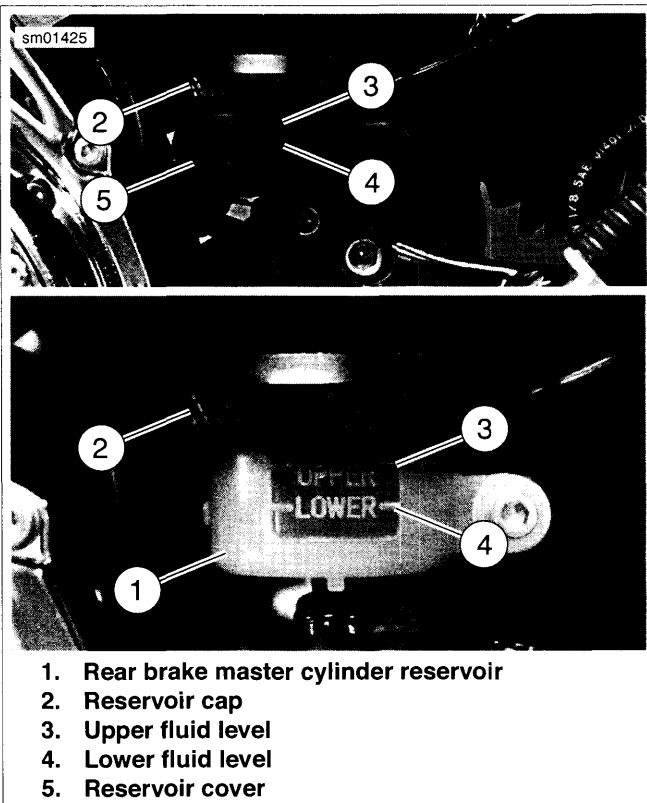
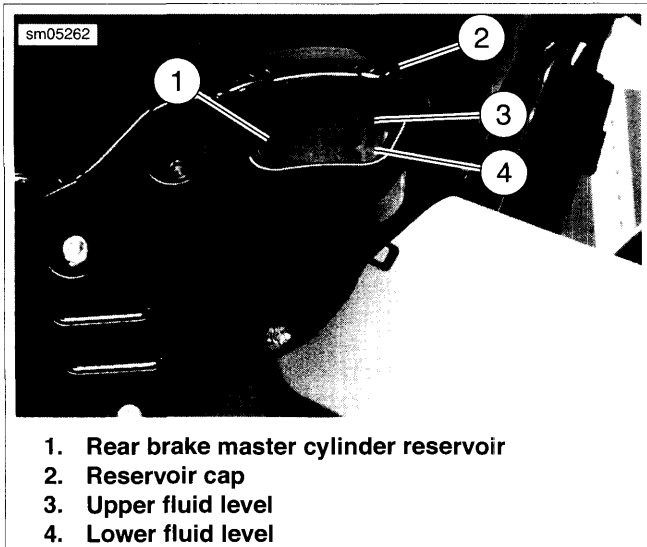
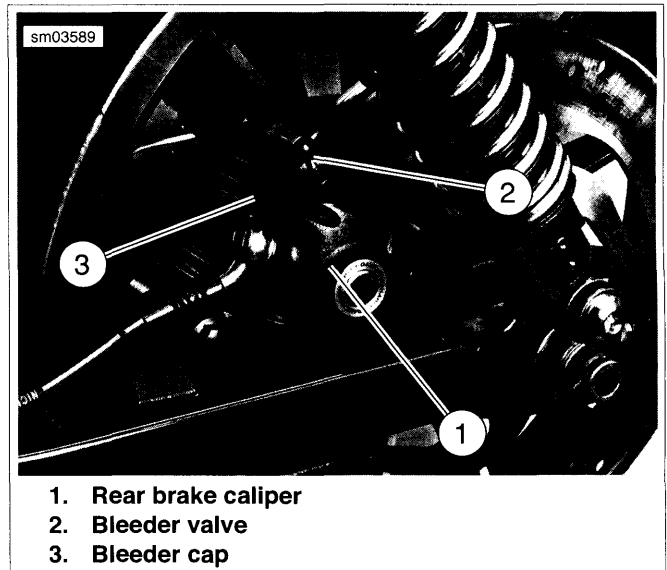
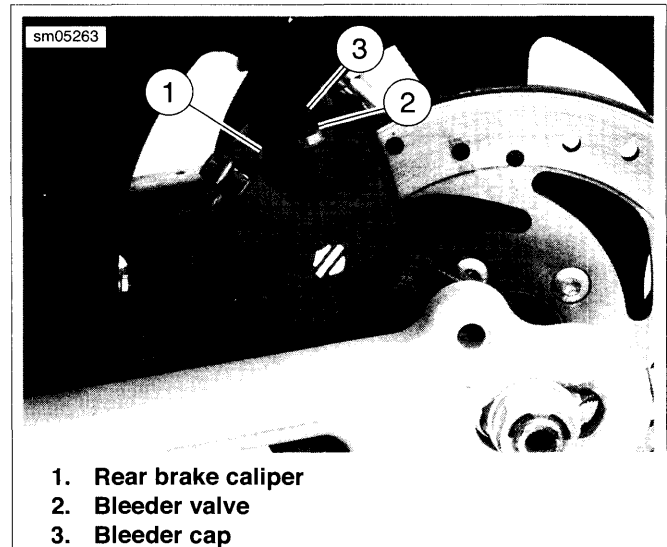

Figure 1-15. Rear Brake Master Cylinder Reservoir: XL Models
Figure 1-16. Rear Brake Master Cylinder Reservoir (XR Models)
Figure 1-17. Rear Brake Caliper: XL Models
Figure 1-18. Rear Brake Caliper: XR Models
- See Figure 1-15 or Figure 1-16. Vehicle must be upright so that rear brake master cylinder reservoir (1) is in a level position when filling and checking fluid level.
- Reservoir cover (5) may be removed from rear brake master cylinder reservoir to more easily verify fluid level in reservoir.
1. Position motorcycle upright (not resting on jiffy stand). See Figure 1-15 or Figure 1-16. Remove reservoir cap (2).
2. If desired, remove reservoir cover (5) by grasping cover and gently pull straight out from reservoir (1).
3. Add HARLEY-DAVIDSON D.O.T. 4 BRAKE FLUID to master cylinder reservoir (1) until the fluid reaches the upper fluid level (3).
4. See Figure 1-17 or Figure 1-18. Remove bleeder cap (3). Install end of a length of 5/16 in. (7.9 mm) I.D. clear plastic tubing over caliper bleeder valve (2). Place free end of tube in a clean container.
9. See Figure 1-15 or Figure 1-16. Add HARLEY-DAVIDSON D.O.T. 4 BRAKE FLUID to master cylinder reservoir (1) until the fluid reaches the upper fluid level (3).
10. Replace reservoir cap (2). Replace reservoir cover (5) if removed.